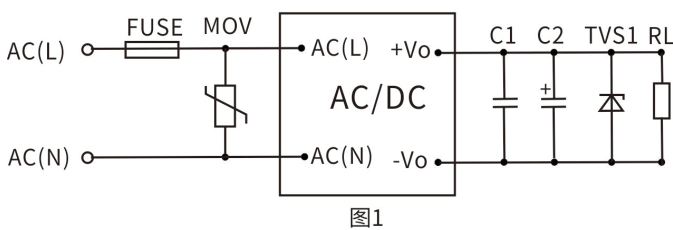
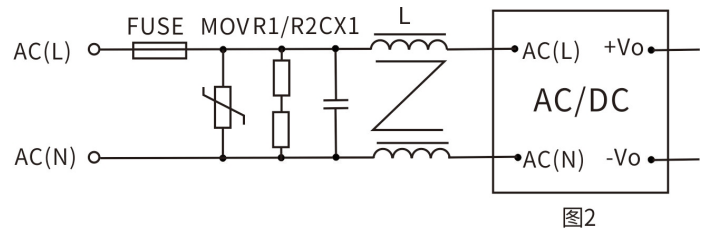

图1
图2
Radiated Emission	CISPR22/EN55032 CLASS B (See Figure 2 for the recommended circuit)
Conducted Susceptibility	IEC/EN61000-4-6 3Vr.m.s Perf. Criteria B (See Figure 2 for the recommended circuit)
Figure 1 shows a normal application circuit
Figure 2 shows an EMC application circuit
- For general application requirements, use the circuit recommended in Figure 1. If EMC compliance is required, use the circuit recommended in Figure 2. The specific recommended values for Figure 2 are as follows: